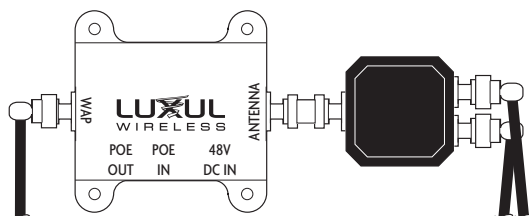

FIGURE 3
2. Find the N Male to RP-SMA coax connected to the side of the Shock-WAV Wi-Fi Signal booster labeled “AP” (Figure 3) and connect it to the antenna port of your AP.
3. Find the N Male to N Male coax cables connected to the splitter that is attached to the Shock-WAV Wi-Fi Signal Booster on the side labeled “Antenna” (Figure 3).